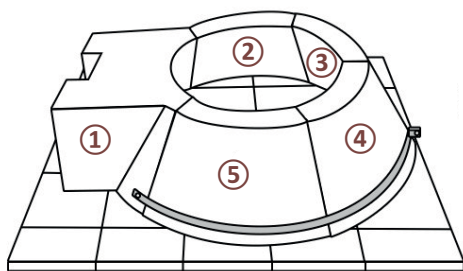

Figure 2
Step 3, figure 2: Align the front element ① along the dotted line and position the elements ② and ⑤ along the circular outline. Place the elements ③ and ④ without making any joints beneath or between these 5 elements. Attach the metal strapping to the base of elements ① to ⑤ and tighten it to ensure a snug fit of the oven side elements against each other.